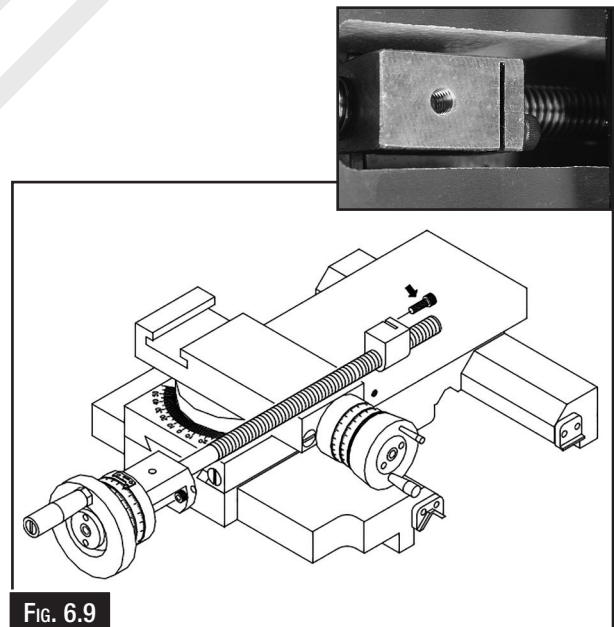

FIG. 6.9
3. With a long hex key in the cap head screw, make only small adjustment. Operating the cross slide several times by hand to be sure of smooth operation throughout the travel. (Fig. 6.9)